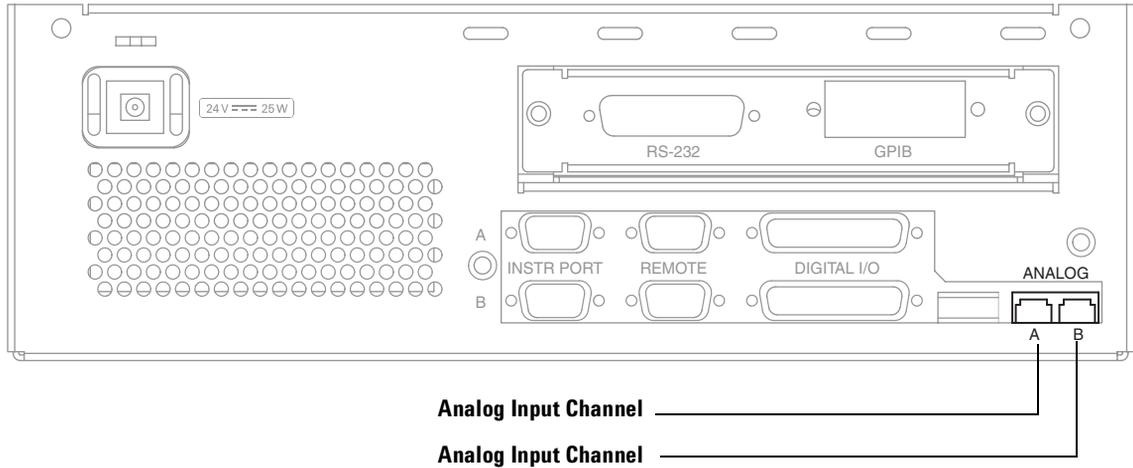

Figure 8 Analog Input (Signal) connection
- 3 Connect the cable to the appropriate (A or B) analog input on the rear panel of the 35900 (Figure 8).